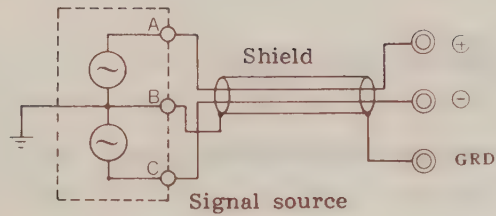

Fig. 4-4
- 3 For signal sources having a differential output, make the connections as shown in Fig. 4-4, with the side having low impedance connected to (-) for this connection as well (the shorting bar is removed).